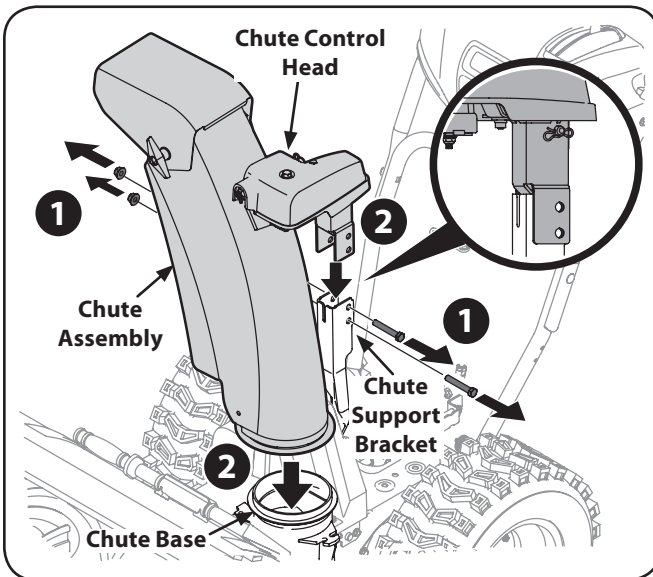

Figure 3-5
1. Remove the lock nuts and hex screws from chute support bracket. Position the chute assembly over the chute base. See Figure 3-5.